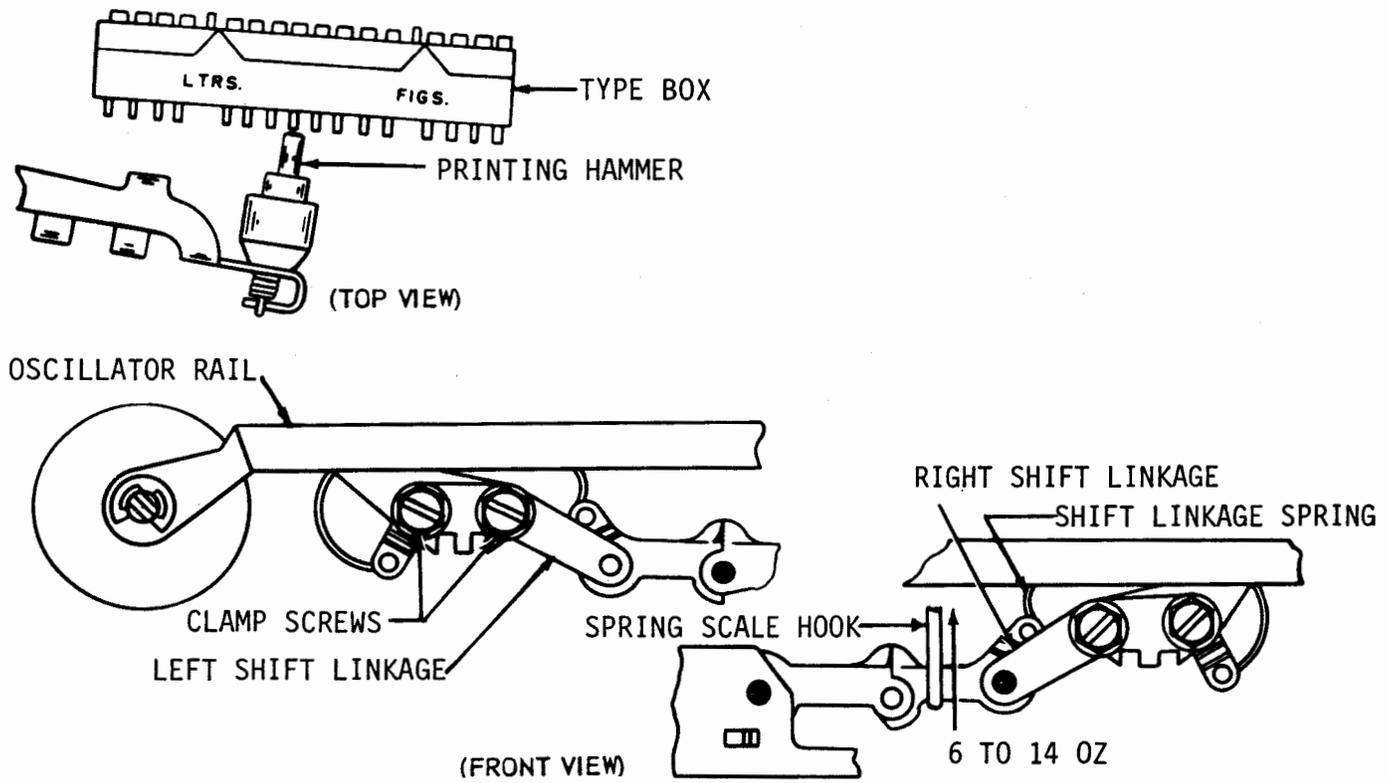
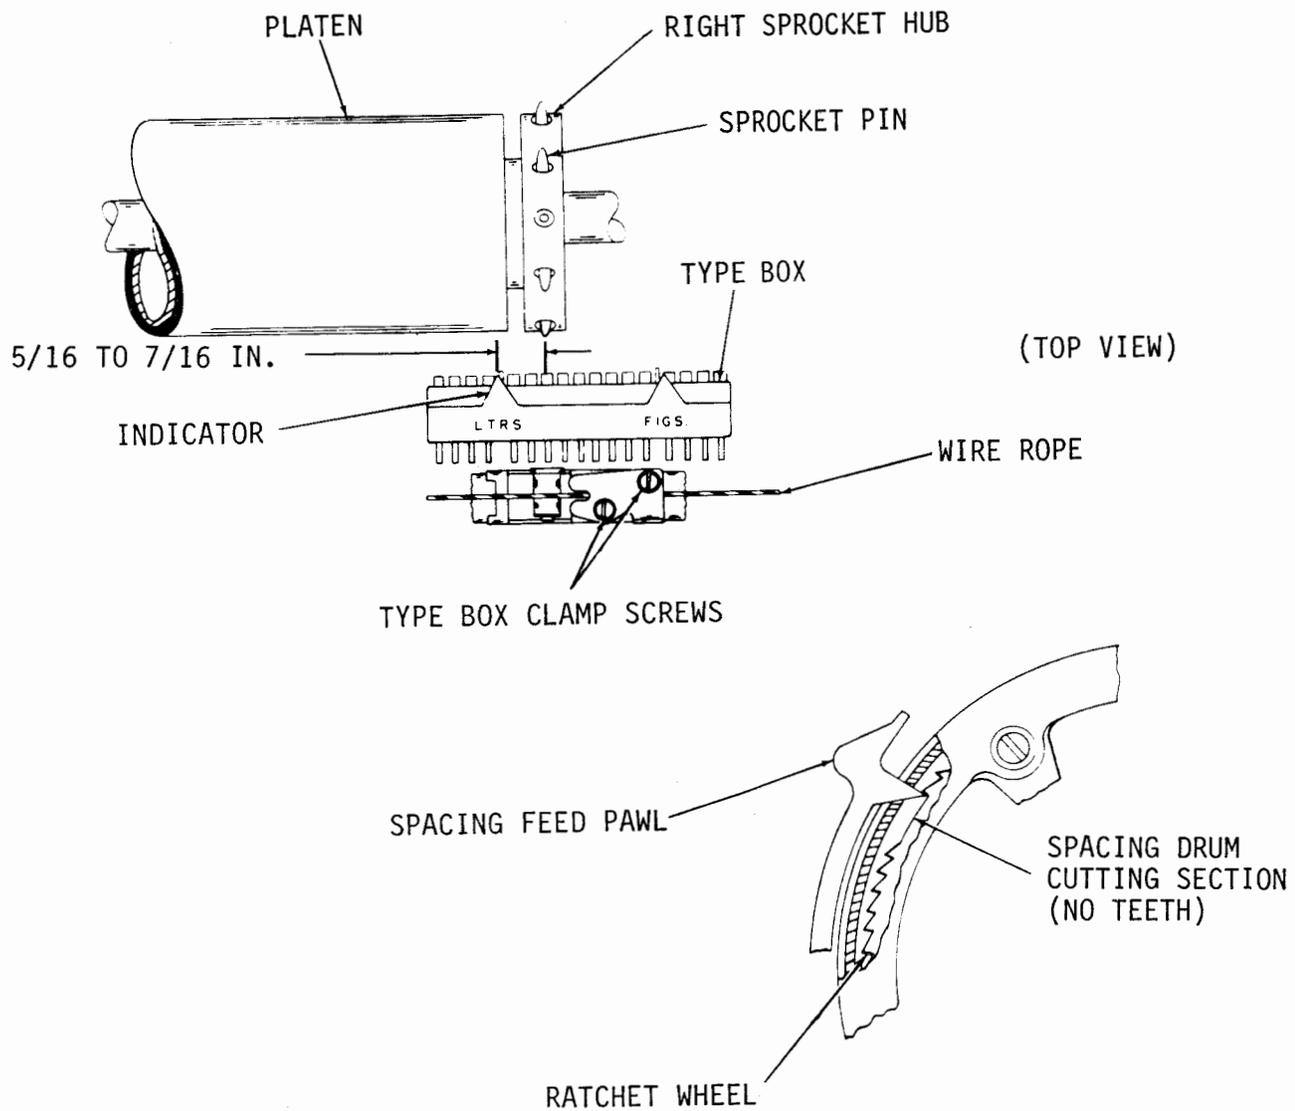

Figure 6-54. Shift Linkage and Shift Linkage Spring
Figure 6-55. Type Box Position (Sprocket Feed)
(a) Refer to figure 6-54.
- (a) Refer to figure 6-54.
(18) Type Box Position (Sprocket Feed). Adjust type box position as follows:
- (a) Refer to figure 6-55.